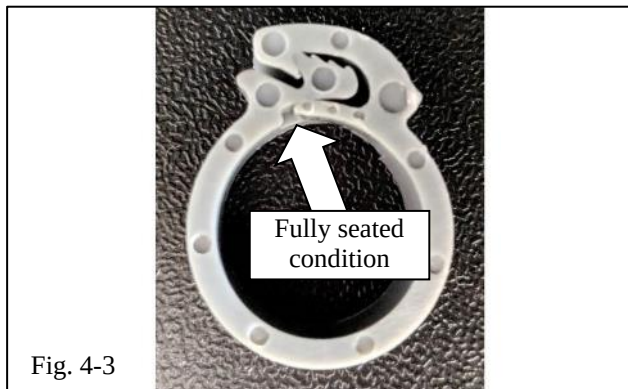

Fig. 4-3
(2) Secure **gray clamp** with channel-lock pliers. Ensure clamp is fully seated (Fig. 4-3).
(3) Install the **black clamp** on the opposite end (inboard side) of the sleeve protector (Fig. 4-2). Leave roughly a clamps' width (8 mm) to the edge of the protector. Secure **black clamp** with channel-lock pliers. Ensure clamp is fully seated (Fig. 4-3).